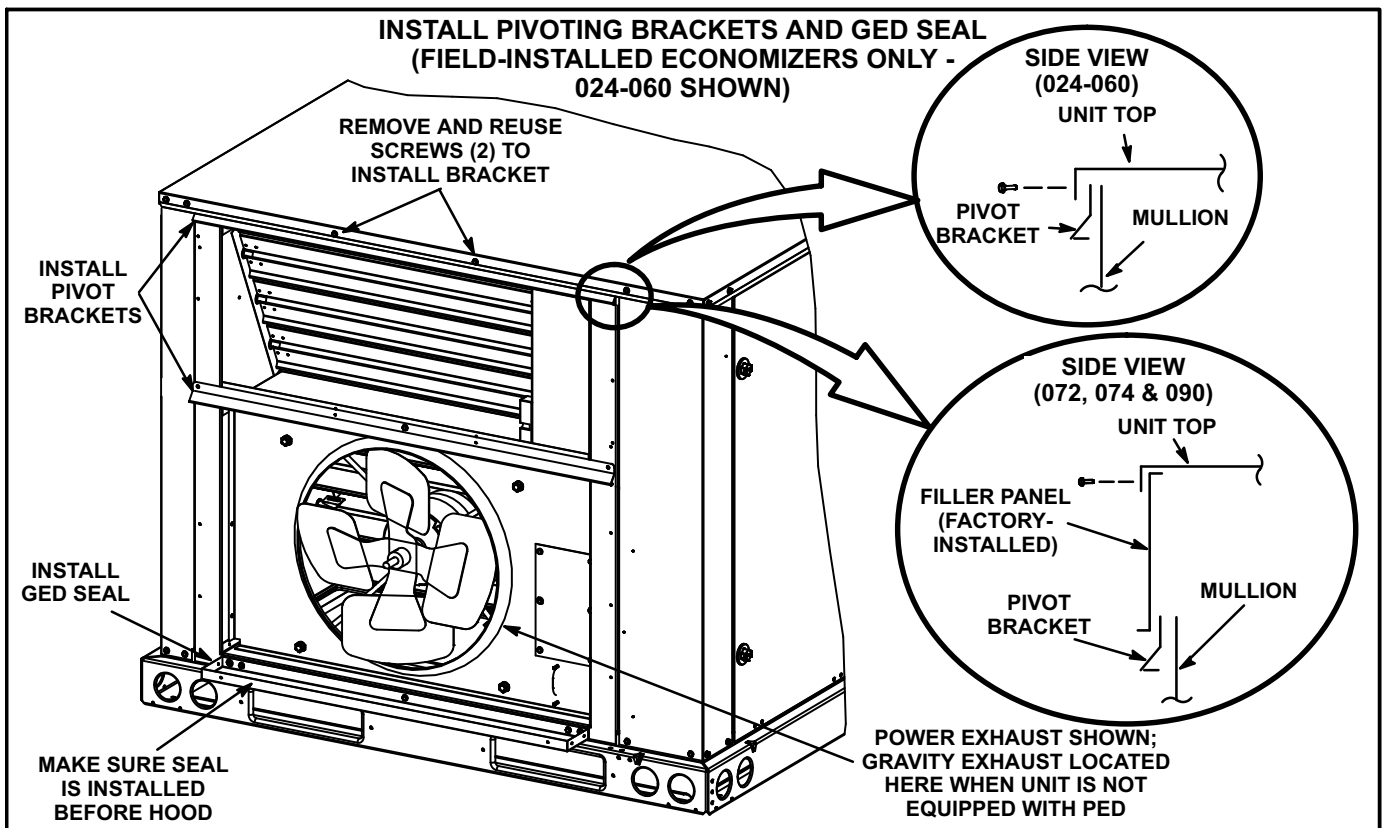

FIGURE 8
- 2- Install pivot brackets and seal on unit as shown in figure 8.